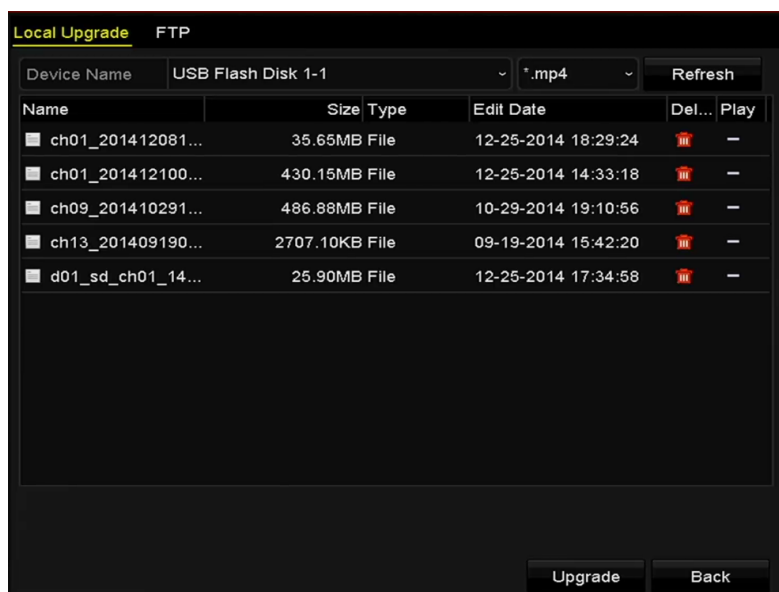

Figure 14-7 Local Upgrade Interface
Step 4 Click the **Local Upgrade** tab to enter the local upgrade menu, as shown in Figure 14-7.